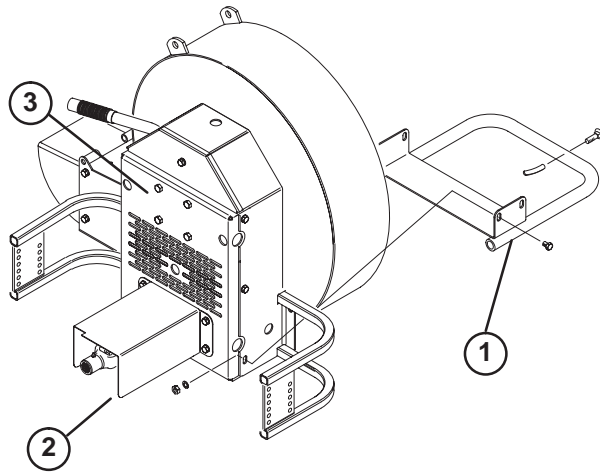

Figure 14
1. Remove capscrews, flatwashers and locknuts securing bumper assembly to blower (Fig. 14). Remove bumper assembly.
6. Remove capscrews and flatwashers securing P.T.O. cover to back cover assembly of blower (Fig. 14). Remove P.T.O. cover.